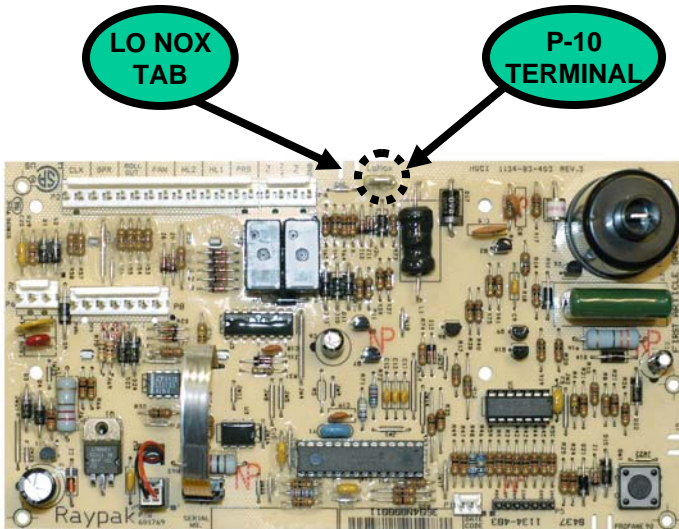

Fig. 17
1. Locate Lo Nox tab and P-10 air switch terminal on the board as shown in **Fig. 17** and **Fig. 18**.